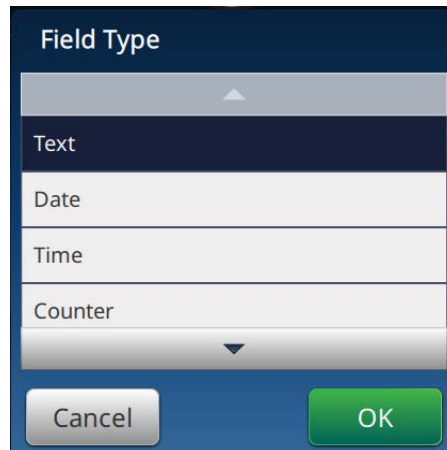

Figure 5-4: Add Field Options
7. Touch the  button and select the required options to add fields as shown in Figure 5-4.